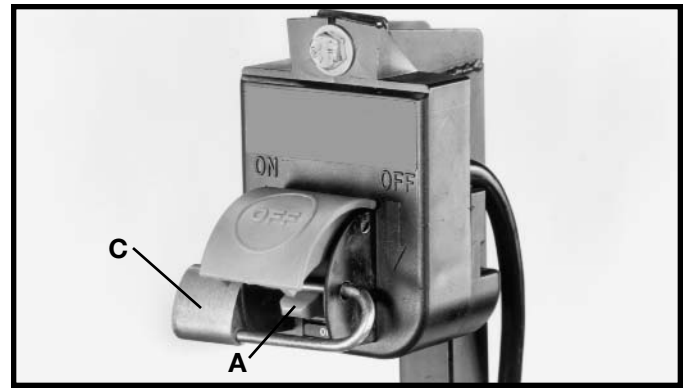

Fig. 33
IMPORTANT: When the tool is not in use, the switch should be locked in the “OFF” position to prevent unauthorized use. Insert the shank of padlock (C) Fig. 33, through the holes in the switch plate to lock the on/off switch trigger (A).